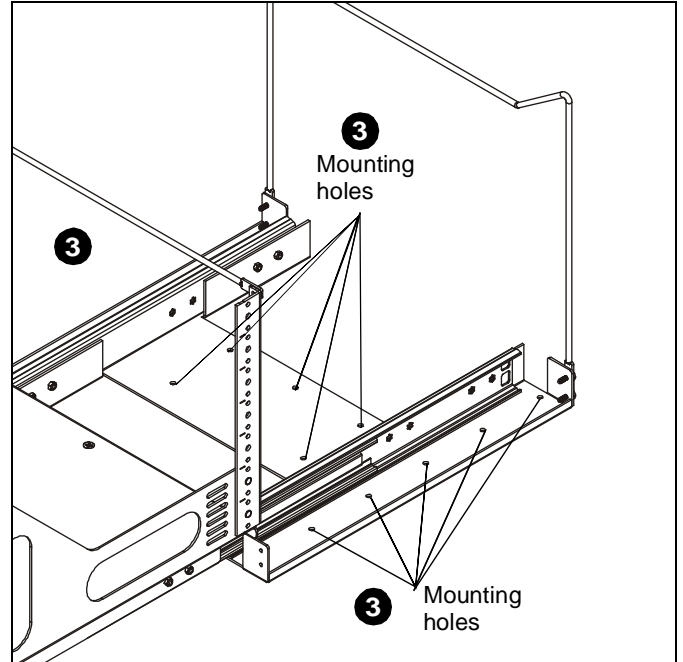

Figure 3
3. Attach POTR/ROTR base to floor of cabinet or to a pedestal or stand using 1/4-20 bolts (not included) through the base. (See Figure 3)